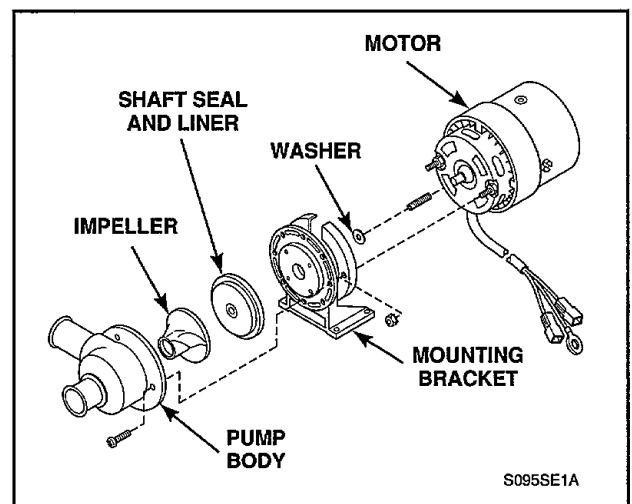

Figure 38
- Remove four screws holding pump body to mounting bracket, *Figure 38*.
NOTE: See *Figure 38* for pump assembly sequence.